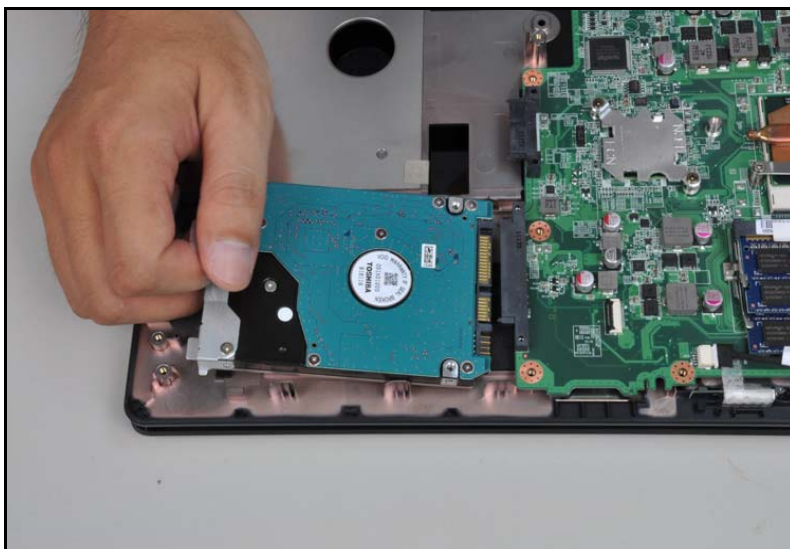

Figure 3-15. HDD Removal
2. Remove the HDD module as shown in Figure 3-15.
3. Remove four (4) screws (A) from HDD bracket (B) Figure 3-15.
3. Install the hard drive into the hard drive compartment. (Figure 3-15).